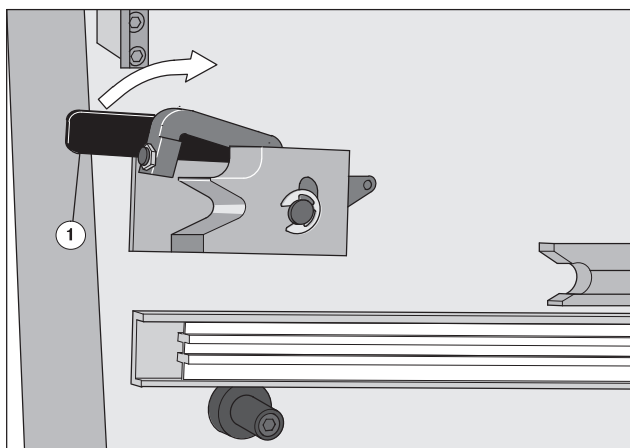

Fig. 59 Numbering slide-in unit locking device
5. Press the locking lever on D.S. (Fig. 59/1) and O.S. towards the feeder up to stop.